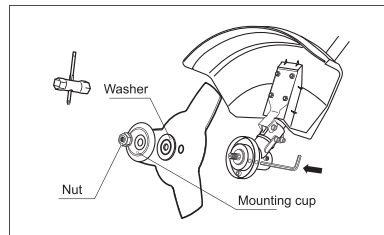

fig. 7
- Align the hole of the flange washer with the hole of the gear cup (fig. 7).
- While holding the locking rod with one hand, tighten the nut securely with a tubular key (supplied), turning it counterclockwise (fig. 7).